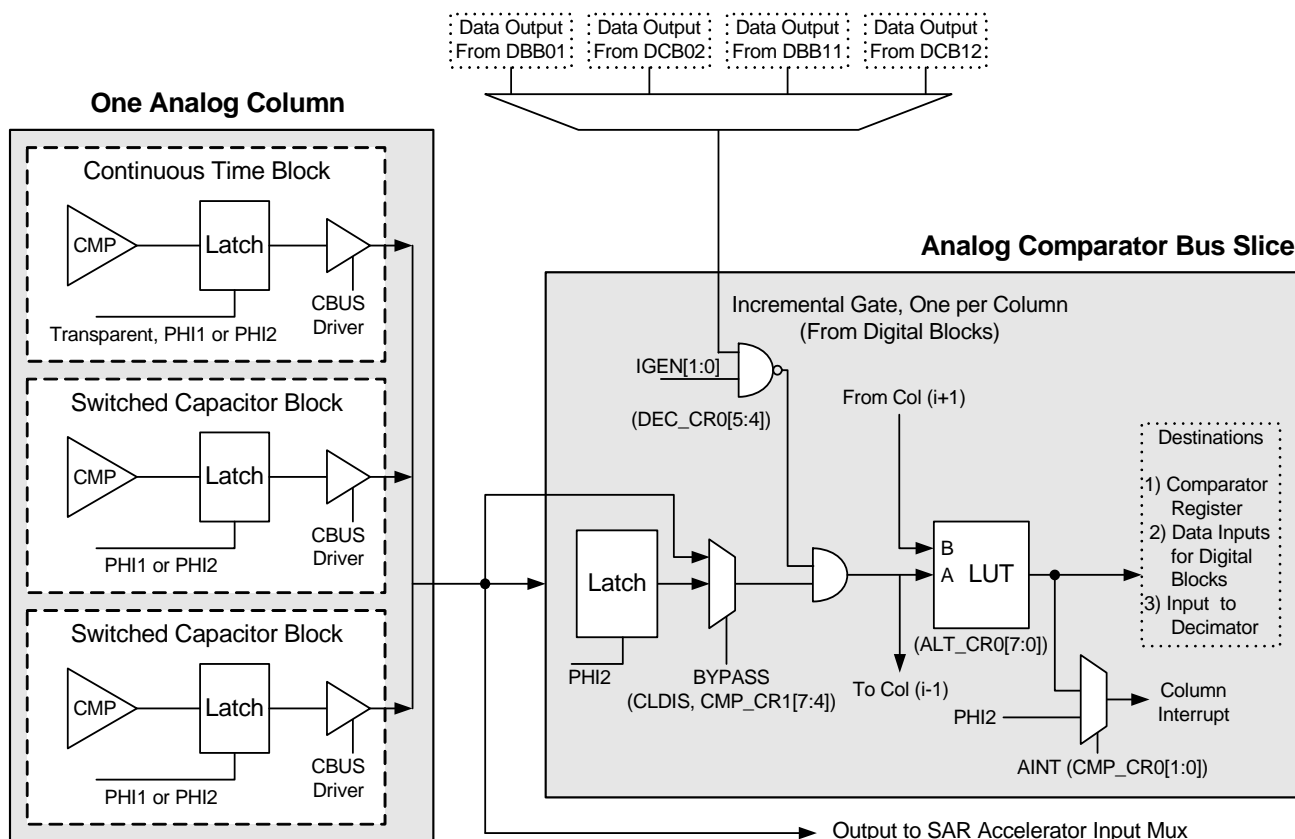

Figure 18-1. Analog Comparator Bus Slice
Figure 18-1 displays the top level diagram of the PSoC device's analog interface system.
Figure 18-1 illustrates one column of the comparator bus. In the Continuous Time (CT) analog blocks, the CPhase and CLatch bits of CT Block Control Register 2 determine whether the output signal on the comparator bus is latched inside the block, and if it is, which clock phase it is latched on. In the Switched Capacitor (SC) analog blocks, the output on the comparator bus is always latched. The ClockPhase bit in SC Block Control Register 0 determines the phase on which this data is latched and available.
As shown in Figure 18-1, the comparator bus output is gated by the primary output of a selected digital block. This feature is used to precisely control the integration period of an incremental ADC. Any digital block can be used to drive the gate signal. This selection may be made with the ICLKS bits in registers DEC_CR0 and DEC_CR1. This function may be enabled on a column-by-column basis, by setting the IGEN bits in the DEC_CR0 register.